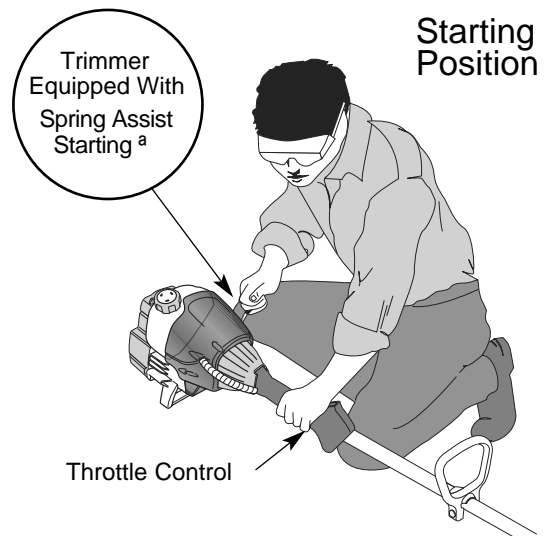

Fig. 11
**WARNING:** Avoid accidental starting. Make sure you are in the starting position when pulling the starter rope (Fig. 11). To avoid serious injury, the operator and unit must be in a stable position while starting.
4. Crouch in the starting position (Fig. 11), squeeze the throttle control, and pull the starter rope out with a controlled and steady motion 5 times.